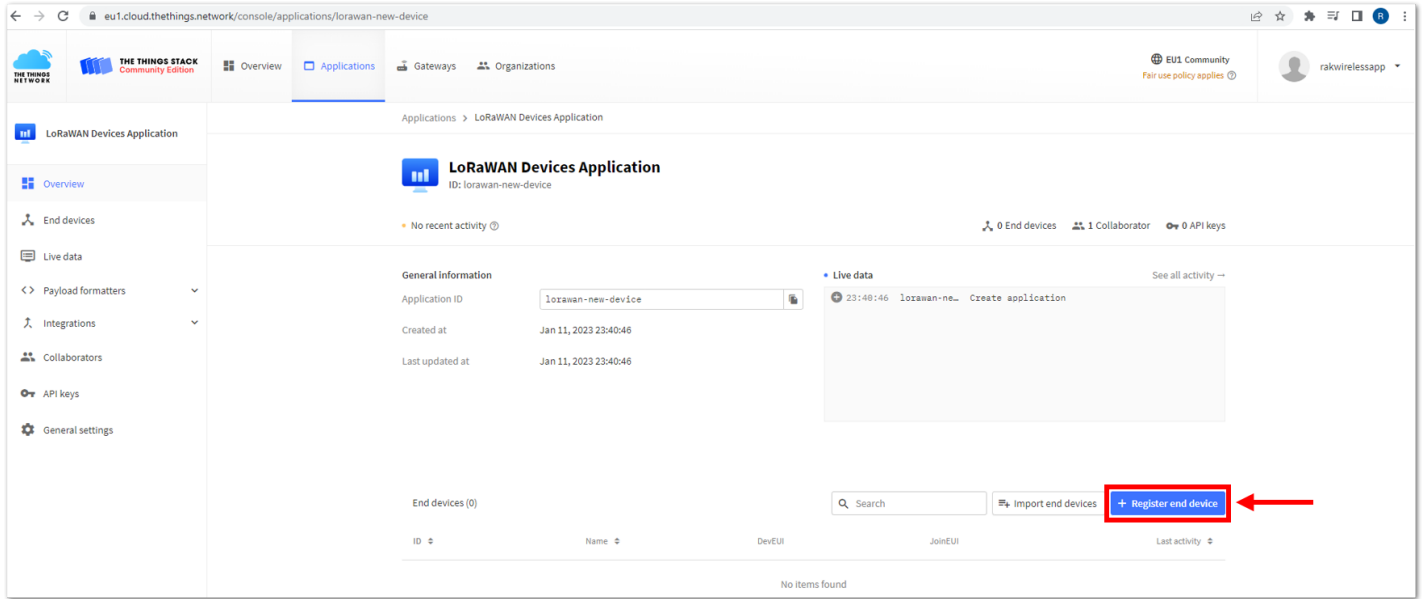

Figure 129: Adding ABP Device
1. To register an ABP device, go to your application console and select the application to which you want your device to be added. Then click **+ Register end device**, as shown in **Figure 129**.